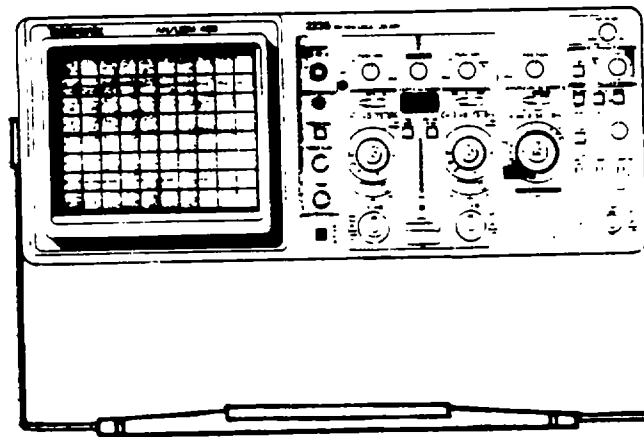

Figure 1-21. Oscilloscope
m. *Oscilloscope (Figure 1-21).* The oscilloscope is a rugged lightweight, dual channel 100-MHz instrument that features a bright, sharply-defined trace on an 80- by 100-mm cathode ray tube (crt). Its vertical system supplies calibrated deflection factors from 2 mV per division to 5V per division. It is used to troubleshoot the electronic equipment within the laboratory.